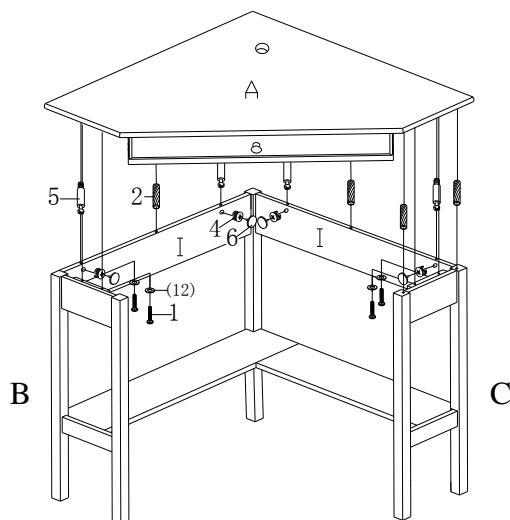

FIGURE 10
10. PUT TOP UNIT INSERT WOOD DOWELS (2), CAM-BOLTS (5) INTO PREDRILLED HOLES ON TOP PANEL (A), WITH AN ASSISTANT, FIT WOOD DOWELS (2), CAM-BOLTS (5) INTO CORRESPONDING HOLES ON PARTS (B, C, I),. INSERT CAM-LOCKS (5) INTO LARGE HOLES ON LOWER CROSS BRACE (I) WITH ARROW FACING TOWARDS HOLE. ROTATE CAM-LOCKS (4) CLOCKWISE TO SECURE CAM-BOLTS (5). PUSH COVERS (6) INTO CAM-LOCKS (4). INSERT LARGE MACHINE SCREWS (1) **AND WASHERS (12)** THROUGH PREDRILLED HOLES ON SIDE FRAMES (B, C) AND TIGHTEN INTO PRETHREADED HOLES ON TOP PANEL (A). TIGHTEN LARGE WOOD SCREWS (3) THROUGH PREDRILLED HOLES SIDE FRAMES (B, C) INTO SHELVES (E, F). AS SHOWN IN FIGURE 10 & 11.